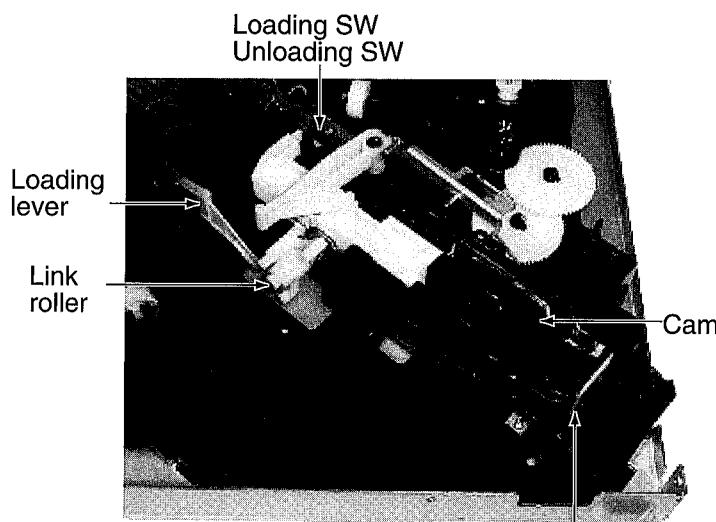

Fig 19
- 1) According to Figure 19, move the cam to specified position "a".
- 2) Make sure that both LOADING and UNLOADING switches turn ON when the cam is moved back and forth (see Figure 19)